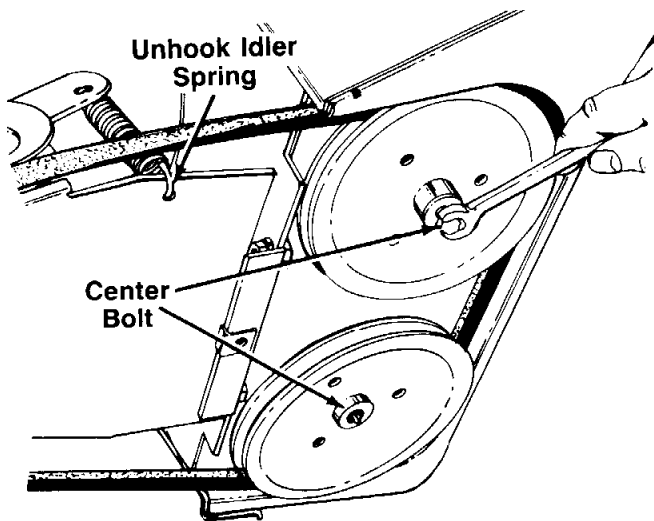

FIGURE 32A.—Model 31340
- a. **Model 31340:** Remove the center bolts from both idler pulleys. See figure 32A. Slide the auger pulleys out enough to slide belt off.